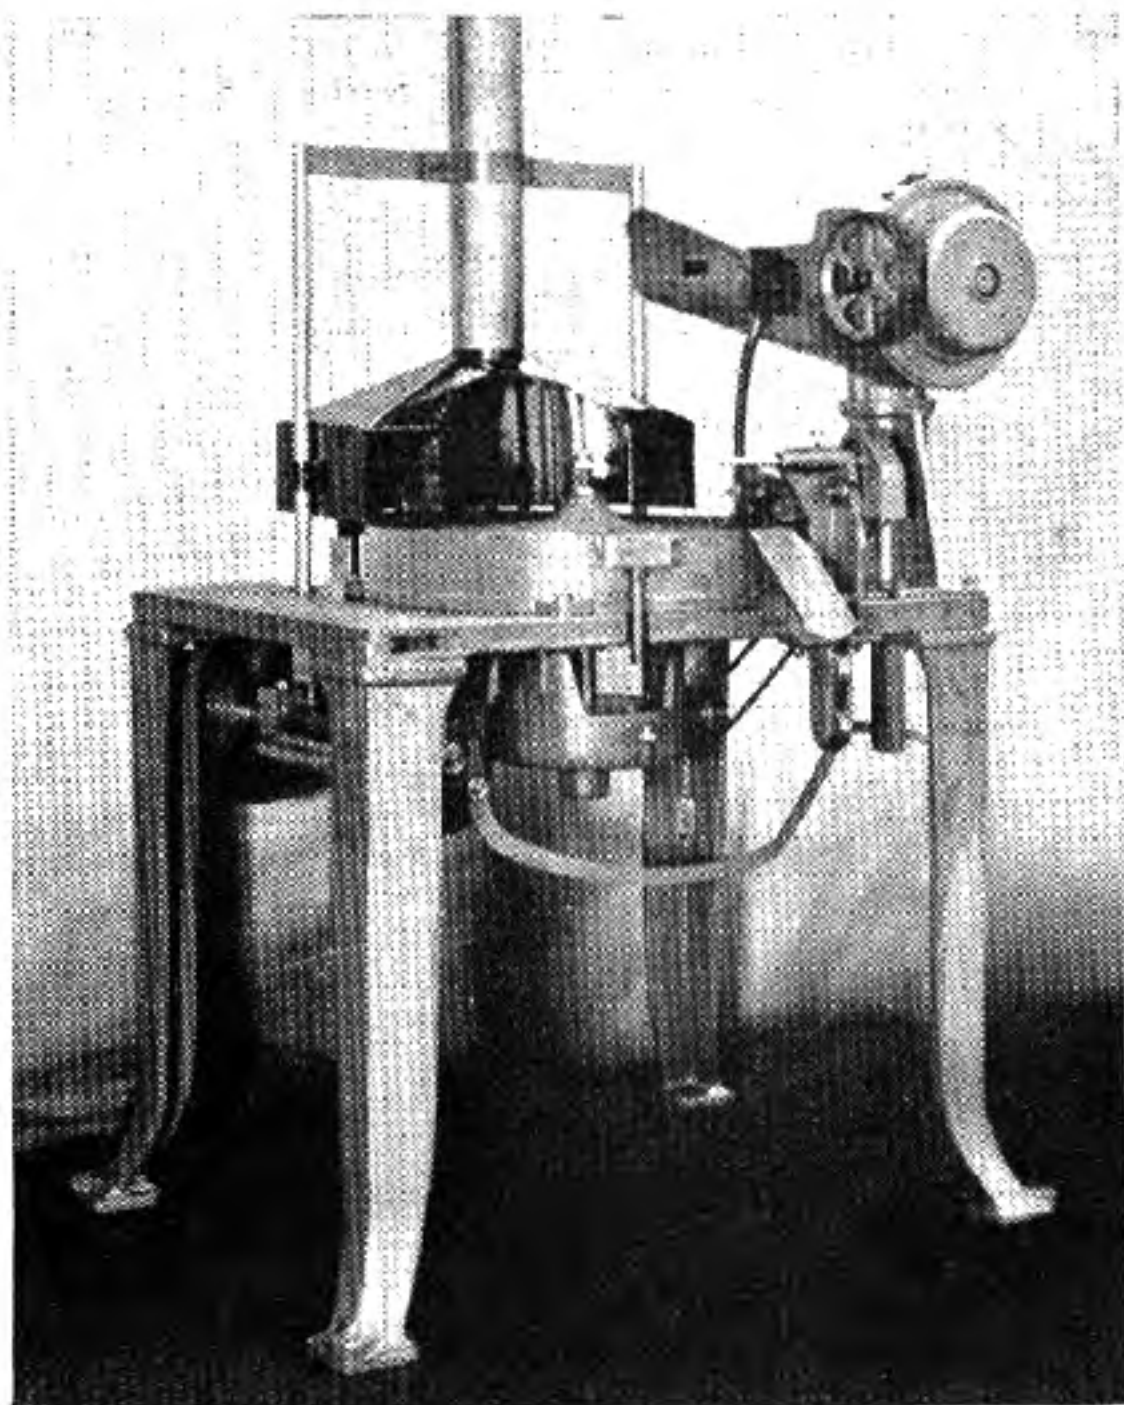

Fig. 162
**Body Anneal** — The cases are now washed and dried and given the body anneal. The machine is shown in Figure 162. This is done by passing them through a series of gas jets on a circular revolving table, the heads emerged in water so that the temper of the heads will not be endangered during the operation. The depth of water will govern the position of temper on the body of the case. A more detailed account will be given later on this subject.
**Point Anneal** — The point annealing process now takes place. This operation is performed on a machine similar to the one shown in Figure 162 for the body anneal, except that the extreme end of the case passes through a series of fine flames from small gas jets, and the neck is annealed up to the shoulder. The distance from the mouth to which the end is annealed is important, and is controlled by the adjustment of the length of flames.